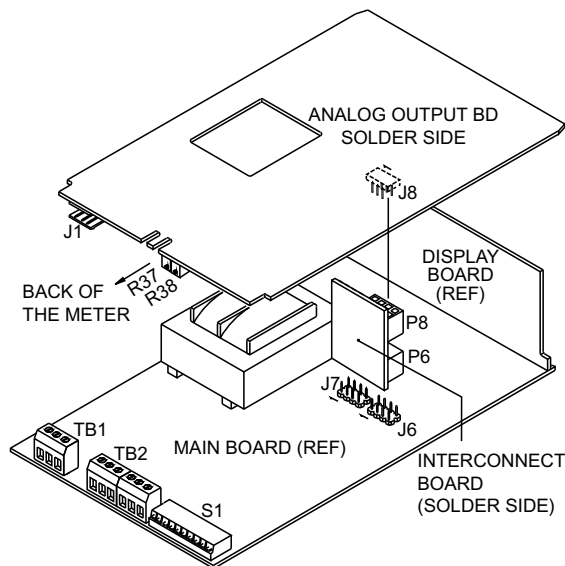

Figure 9-1. Installing the Analog Output Board
Install the analog output board as follows (refer to Figure 9-1):
5. Adjust the input to show a value equal to "Rn L0". Adjust R38 potentiometer at the back of the board (refer to Figure 9-1) for 4 milliamp output (0 volts).